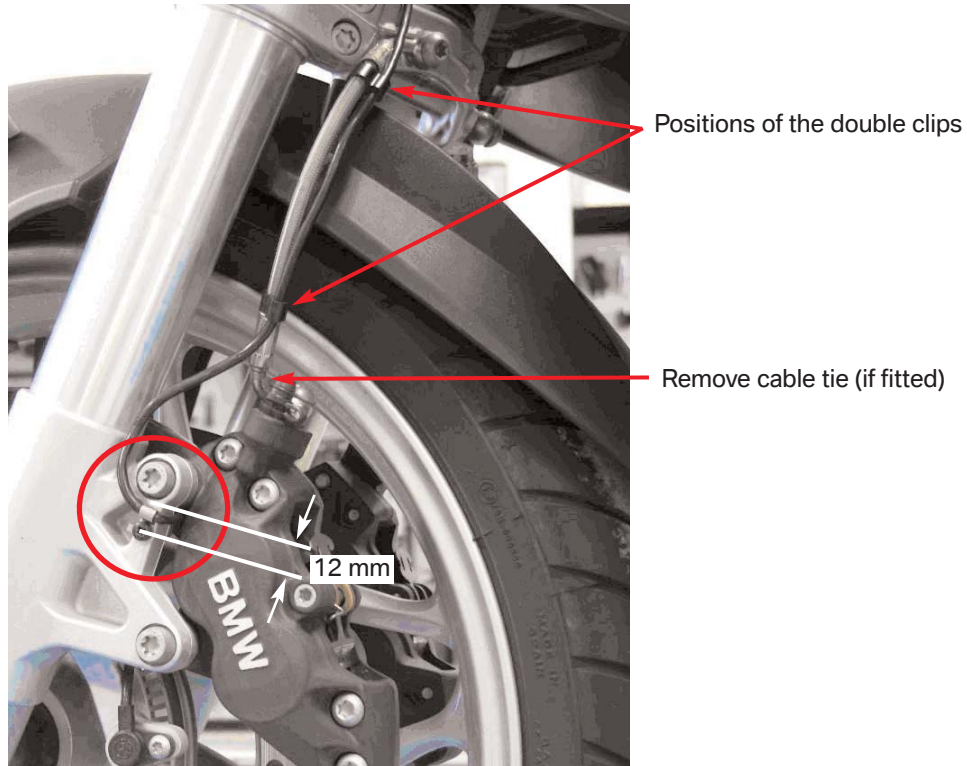

Fig. 5: location of the new sensor cable routing of the R 1200 ST.
6. Position the double clips on the brake line as shown in Fig. 5.
2. Centre-punch to mark the position for drilling the hole. See Fig. 5 for details of the position for the hole.
5. Use the new cable clamp to secure the sensor cable as shown in Fig. 5.
5. Position the double clips on the brake line in the same way as for the R 1200 GS and R 1200 ST (see Fig. 5).